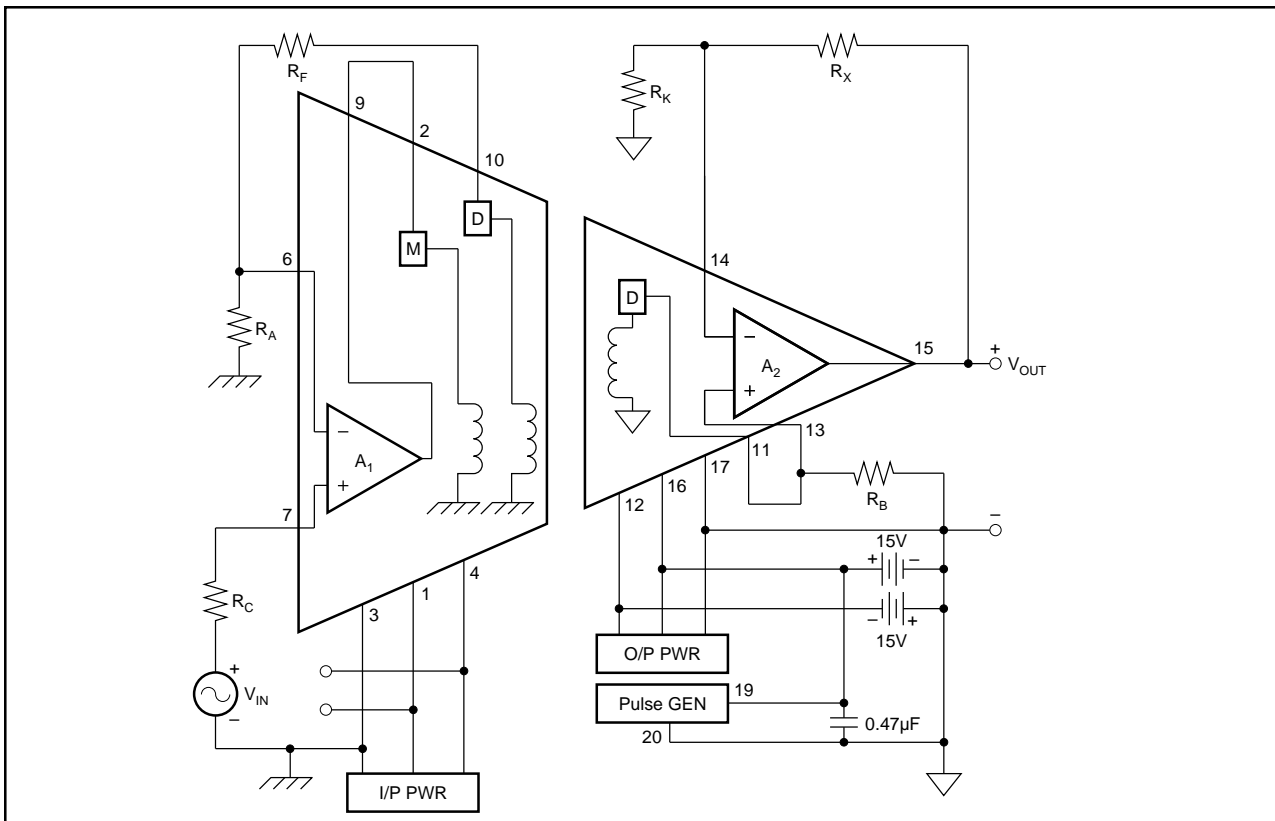

FIGURE 3. Power: Two-Port, Dual Supply; Signal: Noninverting Gain.
NOTES: (1) Ratings in parenthesis are between P- (pin 20) and O/P Com (pin 17). Other isolation ratings are between I/P Com and O/P Com or I/P Com and P-. (2) See Performance Curves. (3) May be trimmed to zero. (4) If output swing is unipolar, or if the output is not loaded, specification same as if external supply were used. (5) Includes effects of A1 and A2 offset voltages and bias currents if recommended resistors used. (6) Versus the sum of all external currents drawn from V+, V-, +V, -V (= ISO). (7) Effects of A1 and A2 bias currents and offset currents are included in Offset Voltage specifications. (8) With respect to I/P Com (pin 3) for A1 and with respect to O/P Com (pin 17) for A2. CMR for A1 and A2 is 100dB, typical. (9) In configuration of Figure 3. Ripple frequency approximately 750kHz. Measurement bandwidth is 30kHz. (10) Decreases linearly from 16VDC at 85°C to 12VDC at 100°C. (11) Instantaneous peak current required from pins 19 and 20 at turn-on is 100mA for slow rising voltages (50ms) and 300mA for fast rises (50μs). (12) Load current is sum drawn from +V, -V, V+, V- (= IISO). (13) Maximum voltage rating at pins 1 and 4 is ±18VDC; maximum voltage rating at pins 12 and 16 is ±18VDC. (14) Isolation ratings may degrade if exposed to 125°C for more than 1000 hours or 90°C for more than 50,000 hours.
Figure 3 shows two-port isolation which uses an external bipolar supply with its common connected to the output stage ground (pin 17). One of the supplies (either + or - could be used) provides power to the pulse generator (pins 19 and 20). The same sort of configuration is possible with the external supplies connected to the input stage. With the connection shown, filtering at pins 12 and 16 is not required. In this configuration continuous isolation voltage rating is: 3500VDC between pins 3 and 17; not applicable between pins 17 and 19; 3500VDC between pins 3 and 19.
The signal path portion of Figure 3 demonstrates two additional gain configurations: gain in the output stage and noninverting gain in the input stage. The following equations apply:
Use the resistor values obtained in Steps 3, 4, 8 and 9, and connect the 3656 as shown in Figure 3.